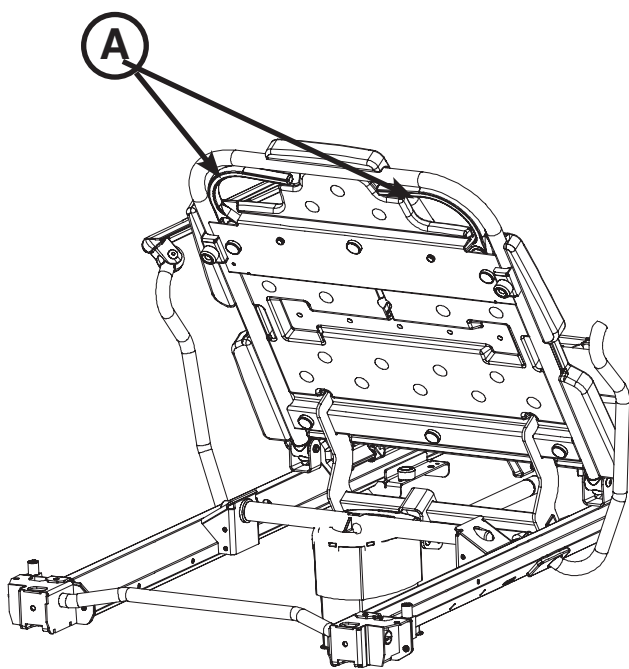

Figure 20: Pneumatic Fowler - Prime
To raise the fowler, squeeze either or both of the yellow fowler handles (A) for pneumatic assist until the fowler has reached the desired angle (between 0 and 90 degrees) as shown in Figures 20 and 21.
To lower the fowler, squeeze either or both of the yellow fowler handles (A) and push down until the fowler has reached the desired angle (between 90 and 0 degrees) as shown in Figures 20 and 21.